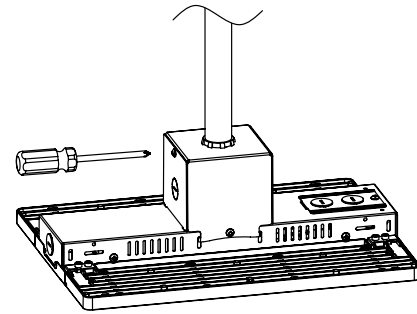

FIGURE 4
4. Lock side brackets with screw driver (Figure 4).